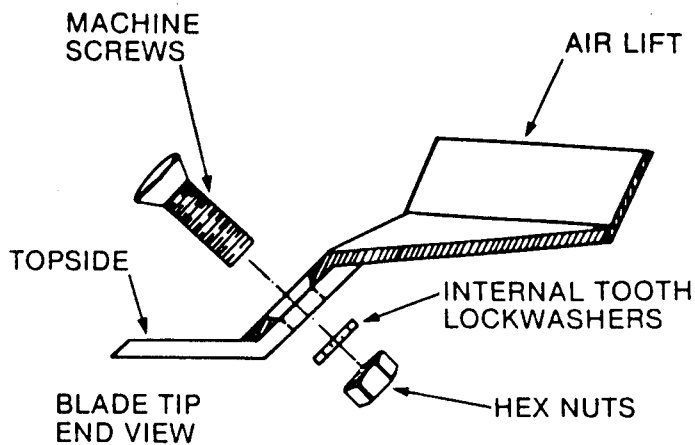

FIG. 1 - AIR LIFT INSTALLATION
1. **AIR LIFT INSTALLATION:** If the Riding Mower being prepared does not have air lifts installed on the blade tips, stand the Rider on its back bumper and assemble the air lifts on the topside of the blade tips as shown in figure 1. **NOTE:** Tighten the retaining nuts 20-25 foot pounds torque to draw the bevelled heads of the machine screws firmly into the bevels of the air lift then retighten each to this same torque value. Return the Rider to its wheels and continue the installation as follows.